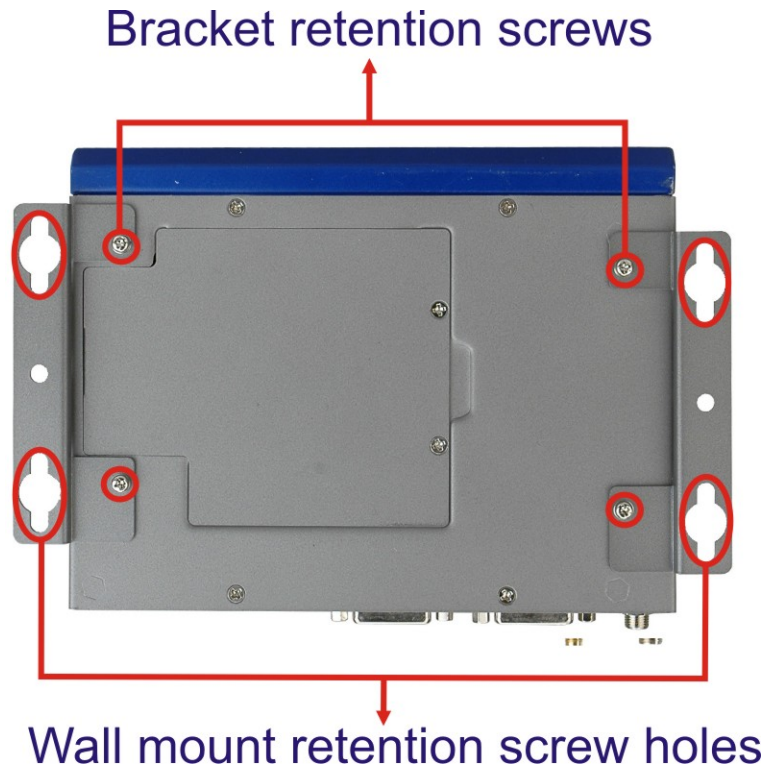

Figure 3-6: Mounting Bracket Retention Screws
Step 3: Secure the brackets to the system by inserting two retention screws into each bracket as illustrated in **Figure 3-6**.
To have the best system heat dissipation, please make sure to face the I/O panel downward (**Figure 3-6**) when mounting the system.